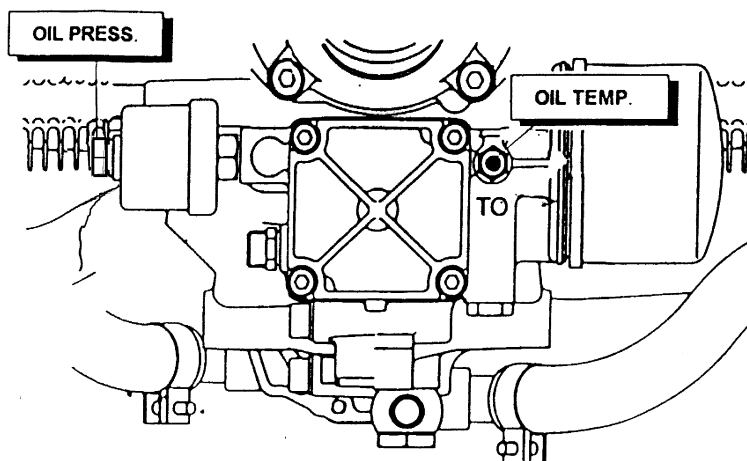

Figure 6-6 Pressure and oil temperature sensors
Referring to figure 6-6, system consists of a pitot tube (1) mounted on left wing strut and two static ports (2) connected in parallel (3) and located on left and right side of fuselage just ahead of door frames. Flexible plumbing connects pitot and static ports to pressure instruments.